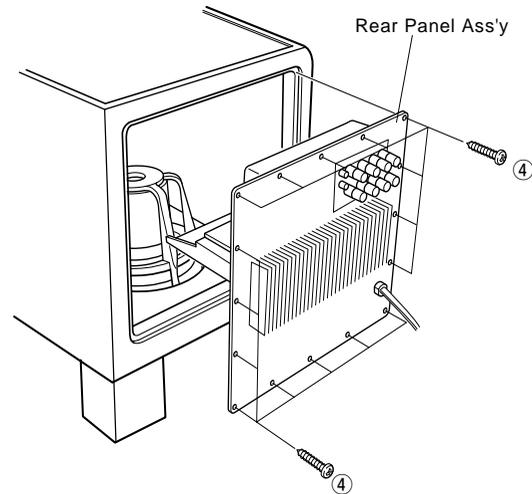

Fig. 3
Remove 16 screws ( ④ ) in Fig. 3.